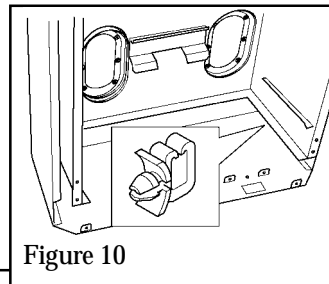

Figure 10
3. Fit a "P" clip at the right side of the inside of the case. Fit the flue switch lead to the clip. See figure 10.